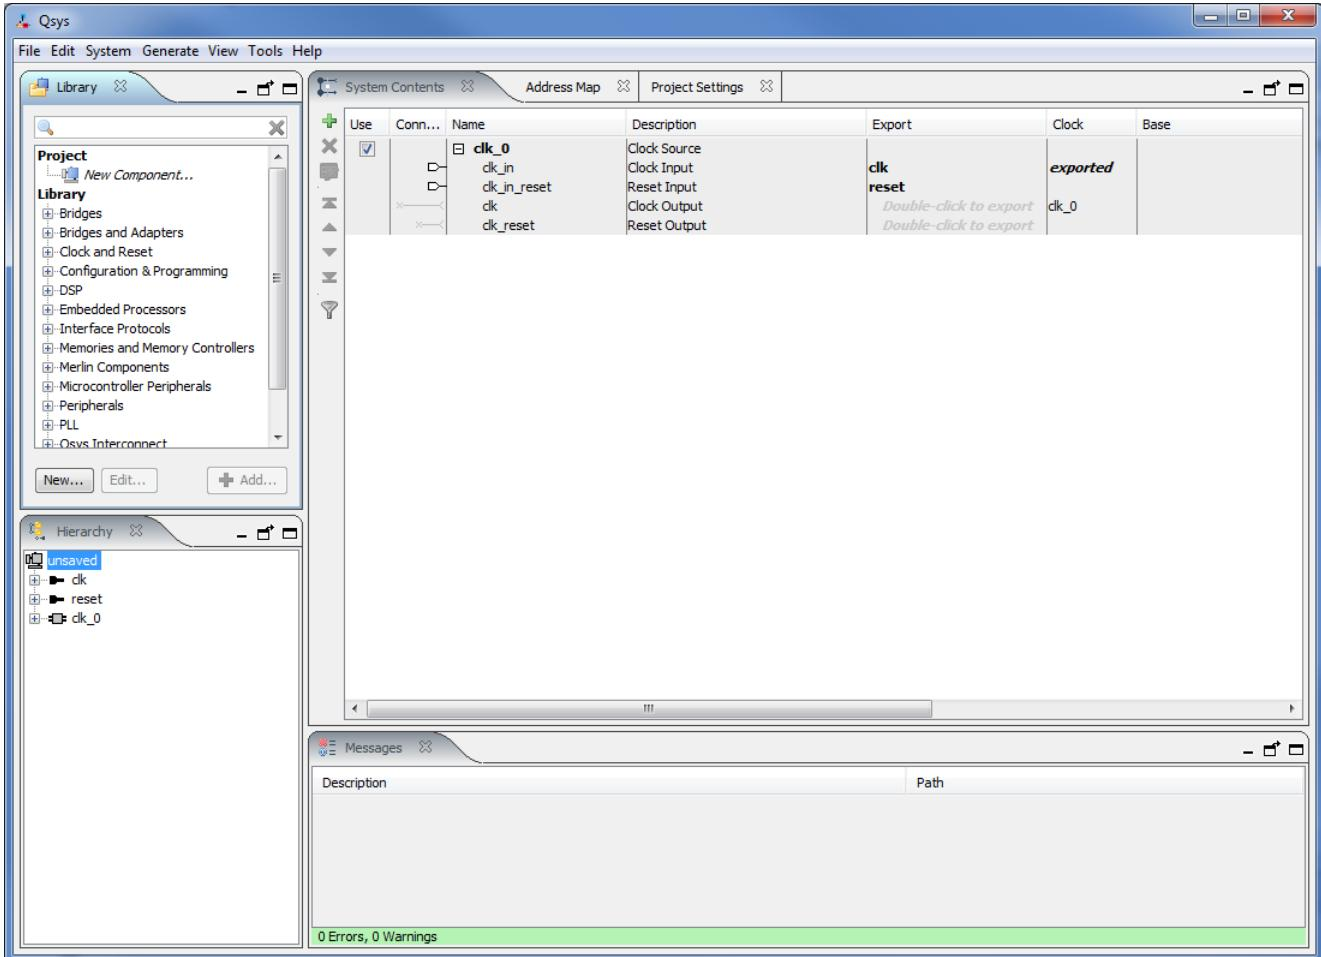
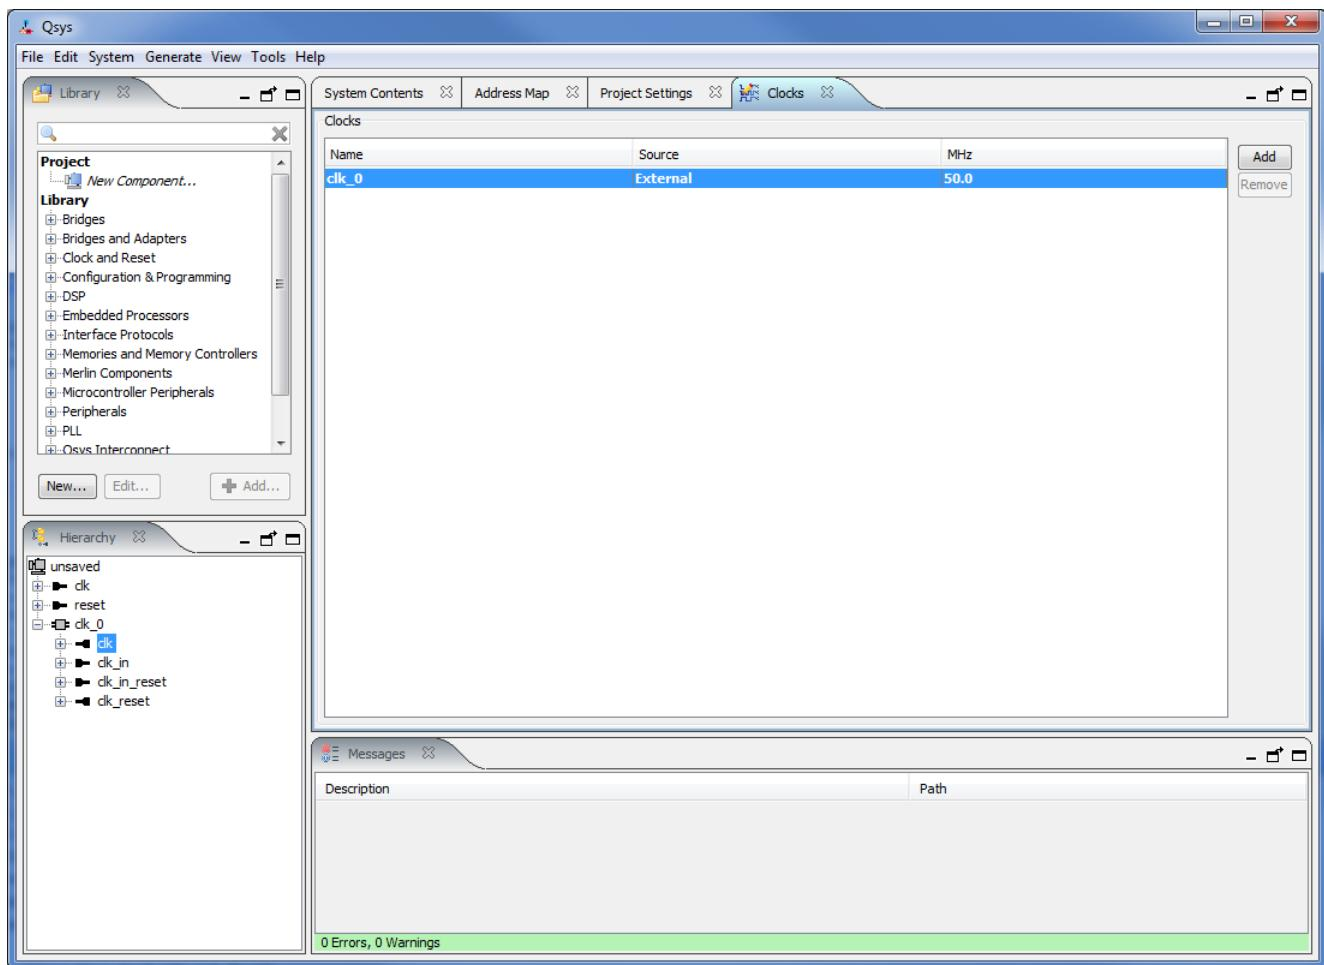

Figure 4. Create a new Nios II system.
Figure 5. The Clock Settings tab.
2. After completing the New Project Wizard to create the project, in the main Quartus II window select Tools > Qsys, which leads to the window in Figure 4. This is the System Contents tab of the Qsys tool, which is used to add components to the system and configure the selected components to meet the design requirements. The
3. The hardware system that will be generated using the Qsys tool runs under the control of a clock. For this tutorial we will make use of the 50-MHz clock that is provided on the DE2-115 board. In Figure 4 select View > Clocks to bring the Clocks tab to the foreground, as illustrated in Figure 5. Here, it is possible to specify the names and frequency of clock signals used in the project. If not already included in this tab, specify a clock named *clk_0* with the source designated as External and the frequency set to 50.0 MHz. The settings are made by clicking in each of the three columns: Name, Source and MHz.